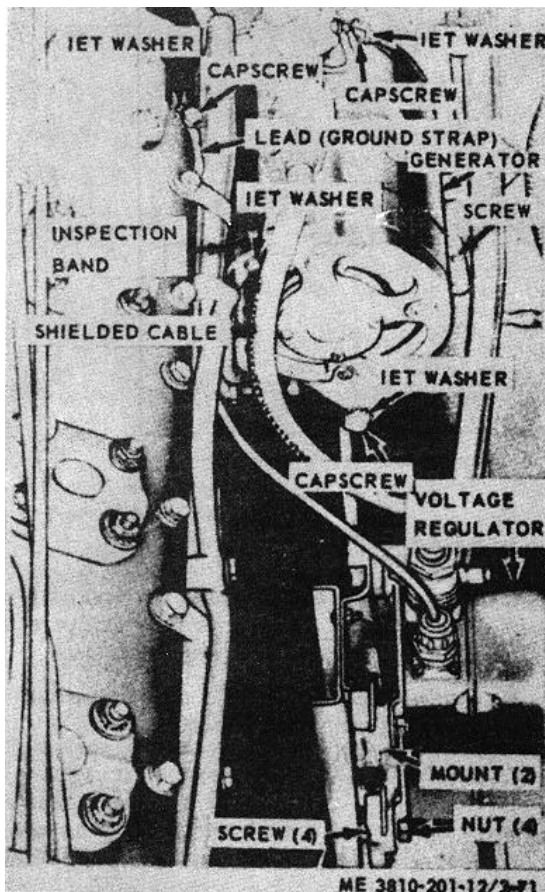

Figure 3-58. Generator and voltage regulator test points.
(1) *Field current test.* Refer to figure 3-58, remove shielded cable, and inspection band from generator.
(1) Remove electrical leads from voltage regulator (fig. 3-58).